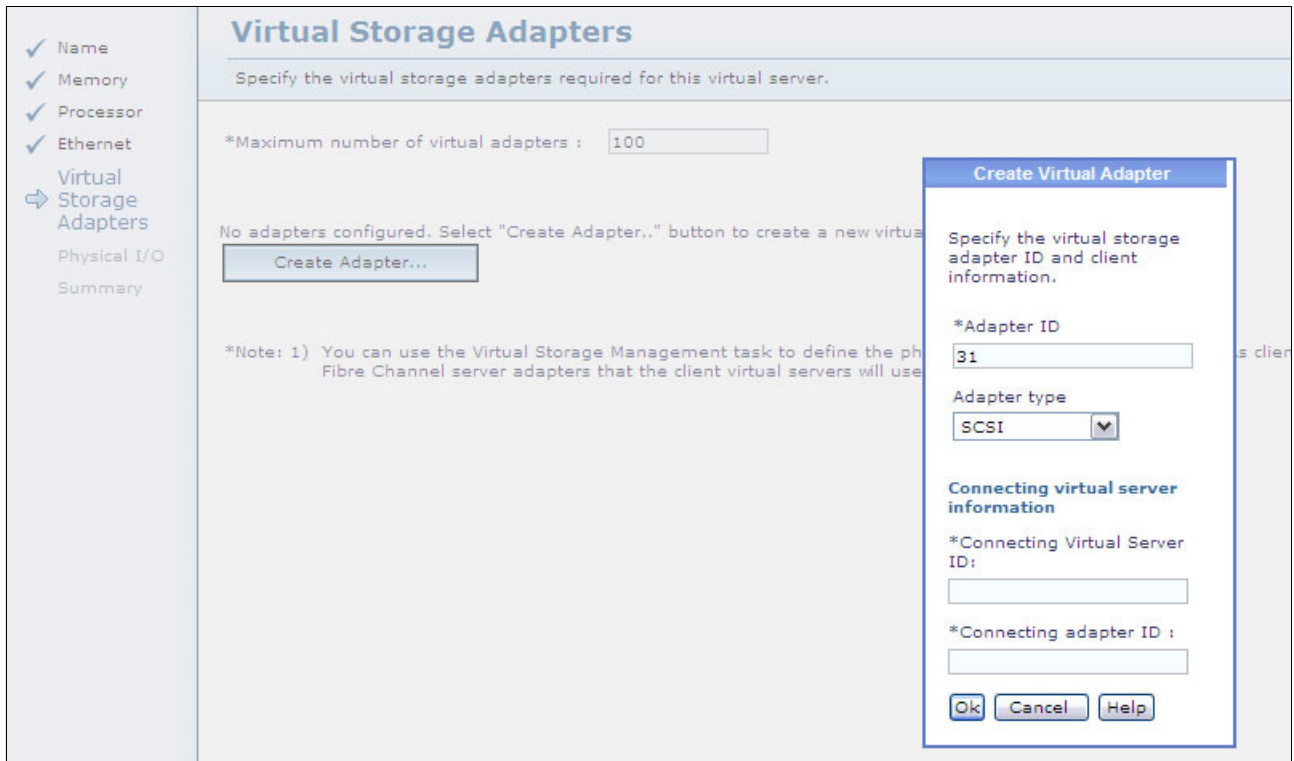

Figure 10-13 Creating the VIOS profile: Create Virtual Adapter
11. Create an adapter for virtual SCSI, as shown in Figure 10-13.